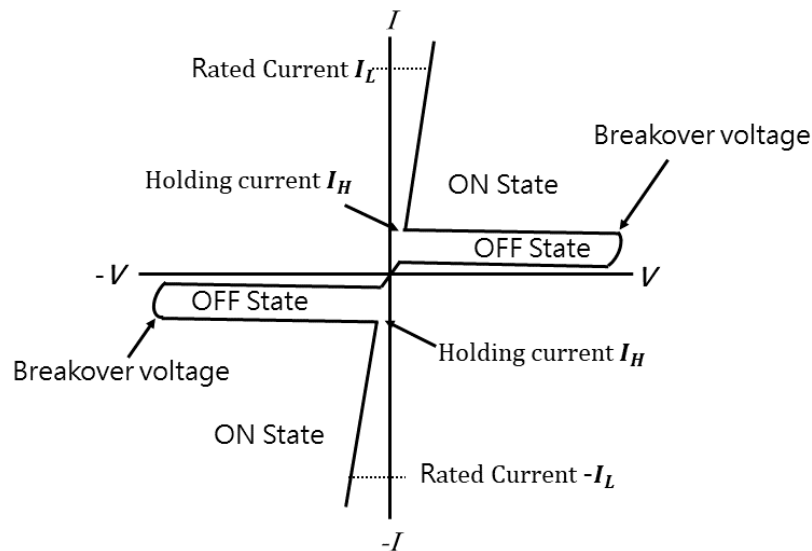

Figure 2. TRIAC I-V Curve
- (1) Interruption the voltage (open or short) at both ends (T_1 and T_2).
- (2) Change voltage polarity of two terminals (positive and negative polarity reverse or turns off automatically when uses AC source).
- (3) Reduce conduction current to holding current I_H (refer to figure 2)